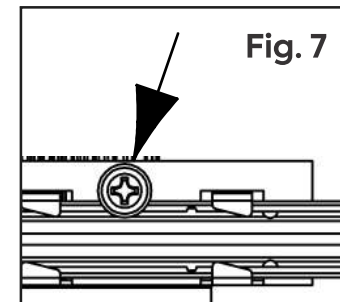

Fig. 7
Step 2: After the frame is set into place, tighten the hanger bars using the locking screws mounted onto the frame, (indicated by the arrow in **Fig. 7**).